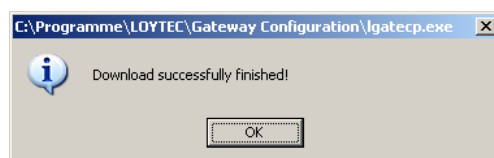

Figure 117: FTP download success dialog.
8. Observe the download progress. When the download is complete the dialog shown in Figure 117 appears.